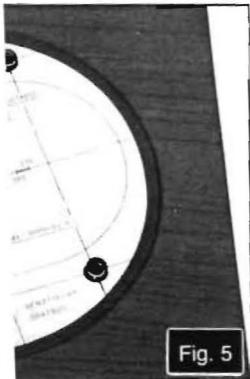

Fig. 5
The unit is furnished with a tonearm installation diagram which enables you to easily set the tonearm mounting position without a template (tonearm mounting gauge) or the like. (Fig. 5.)
1. Loosen the arm panel fixing screws (to such an extent that the heads of the screws are slightly projected), and fit over the tonearm installation diagram to be aligned with the screw heads. (See Fig. 5.)
Follow the tonearm installation diagram (See Fig. 5) and the tonearm mounting gauge (See Fig. 6).